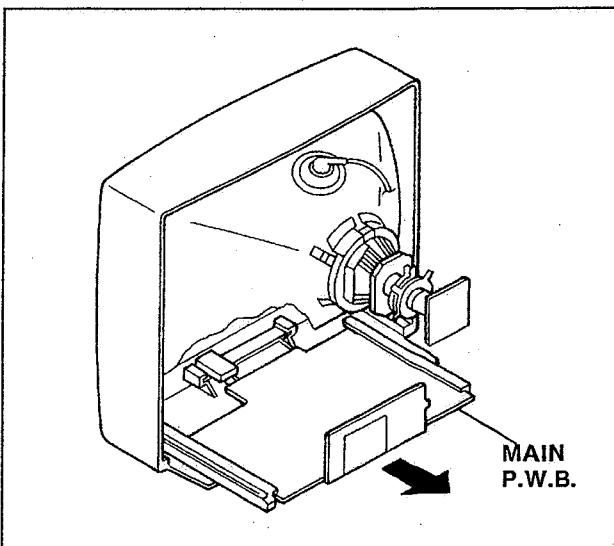
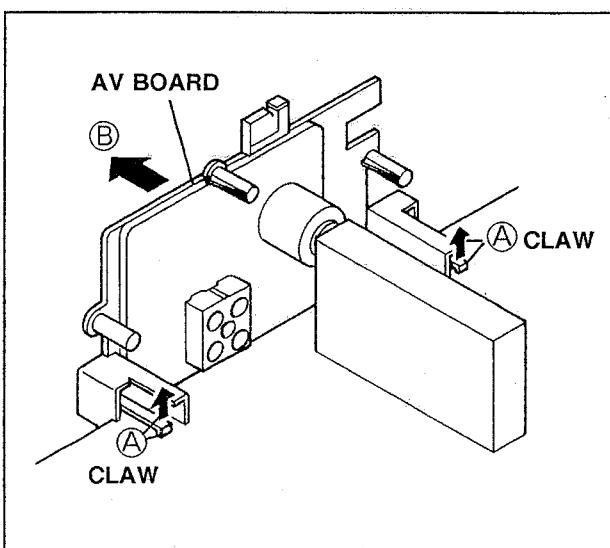

Fig. 2
Fig. 3
1. Withdraw the MAIN PW board backward along the rail.(Fig. 2)
3. Remove the claws marked **(A)** by widening slightly in the direction of arrow as shown in Fig.3.
4. Remove the AV BOARD in the direction of arrow marked **(B)** as shown in Fig.3.
(4) System constant check and setting 1) Simultaneously press the DISPLAY key and PICTURE MODE key of the remote control unit. 2) The SERVICE MENU screen of Fig. 1 is displayed. 3) While the SERVICE MENU is displayed, again simultaneously press the DISPLAY and PICTURE MODE keys to display the Fig. 2 SYSTEM CONSTANT screen. 4) Refer to the SYSTEM CONSTANT table-1 and check the setting items. Where these differ, select the setting item with the PICTURE ADJUST CENTER key and adjust the setting with the PICTURE ADJUST + / - keys.	 <p>Fig. 1</p>
[ABL SETTING] 5) Press the PICTURE ADJUST + / - keys to adjust each item of ABL/REF/STEP in the ABL settings as shown Fig. 3. Then, select the items by the PICTURE ADJUST CENTER key and set the values by the PICTURE ADJUST + / - keys. After setting, press the MUTE key to return to the SYSTEM CONSTANT screen. 6) After adjusting, release the PICTURE ADJUST + / - key to store the setting value. 7) Press the MUTE key twice to return the normal screen.	 <p>Fig. 2</p>
(6) User settings Check the user setting items according to table-2. Where these do not agree, refer to the OPERATING INSTRUCTIONS and set the items as described.	 <p>Fig. 3</p>